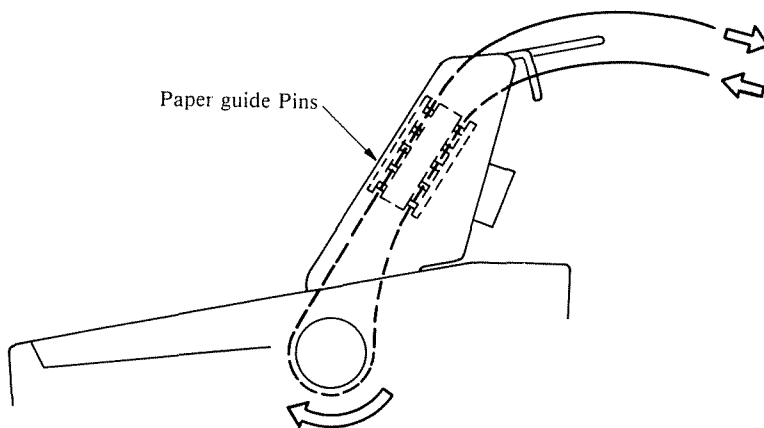

Figure 6
13. Advance the paper by turning the Platen Knob so that the paper exits over the top of the Upper Paper Net. (See Figure 6.)